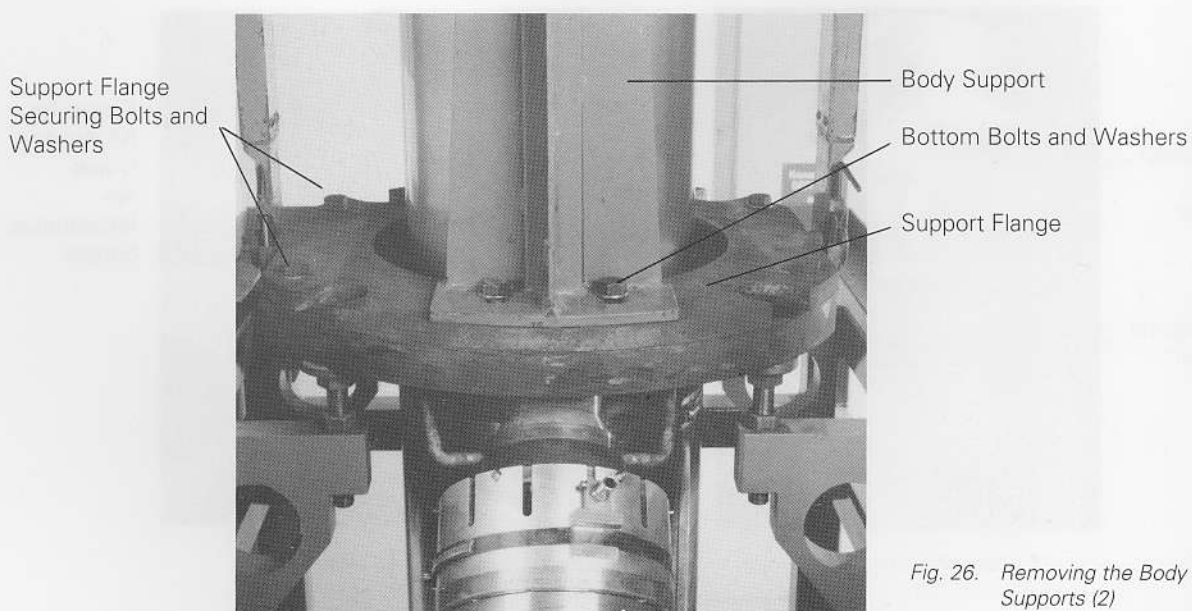

Fig. 26. Removing the Body Supports (2)
- (b) Unscrew and remove the four bottom bolts and washers (Fig. 26).
- (e) Unscrew and remove the four support flange securing bolts and washers (Fig. 26).